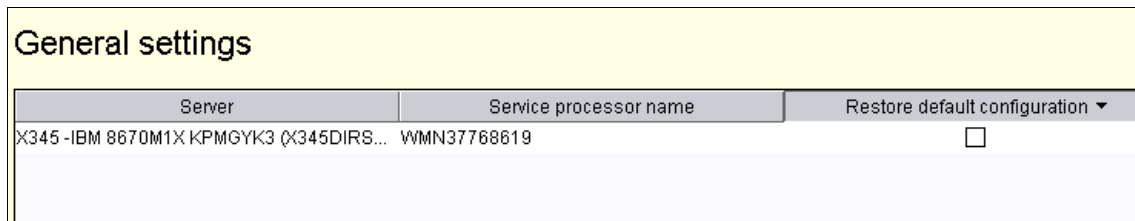

Figure 7-9 General settings window within the MPA configuration window
4. To restore the service processor factory defaults, click **General settings**. Figure 7-9 appears.
5. Check the check box under the heading Reset default configuration (scroll to the right if necessary; see Figure 7-9).